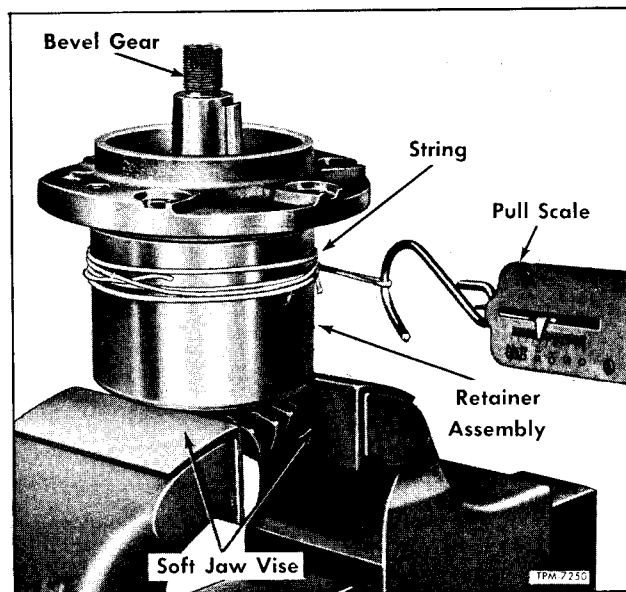

Figure 69—Checking Bevel Gear Adjustment
2. Install bearing adjustment spacer (13) on shaft of bevel gear.
3. Inspect counterbores in bearing retainer (18) which must be clean.
5. Apply engine lubricant on bearing assemblies; then set the retainer in place on bevel gear, making sure key (38) is in shaft.
6. Install outer bearing cone (11), adjustment nut lock (7), and adjustment nut (6). NOTE: Care should be taken to prevent nut lock from turning with adjustment nut.
a. Tighten bearing adjustment nut (6) to 175 to 200 ft.-lbs. torque.
b. Wrap a heavy cord around bearing retainer and attach a spring scale as shown in figure 69. Rotate bearing retainer by pulling on spring scale. Correct bearing preload will require a 5 to 15 pound pull to rotate retainer. If necessary, replace bearing adjustment spacer (13) with another size. Select smaller size to increase preload; larger size to decrease preload.